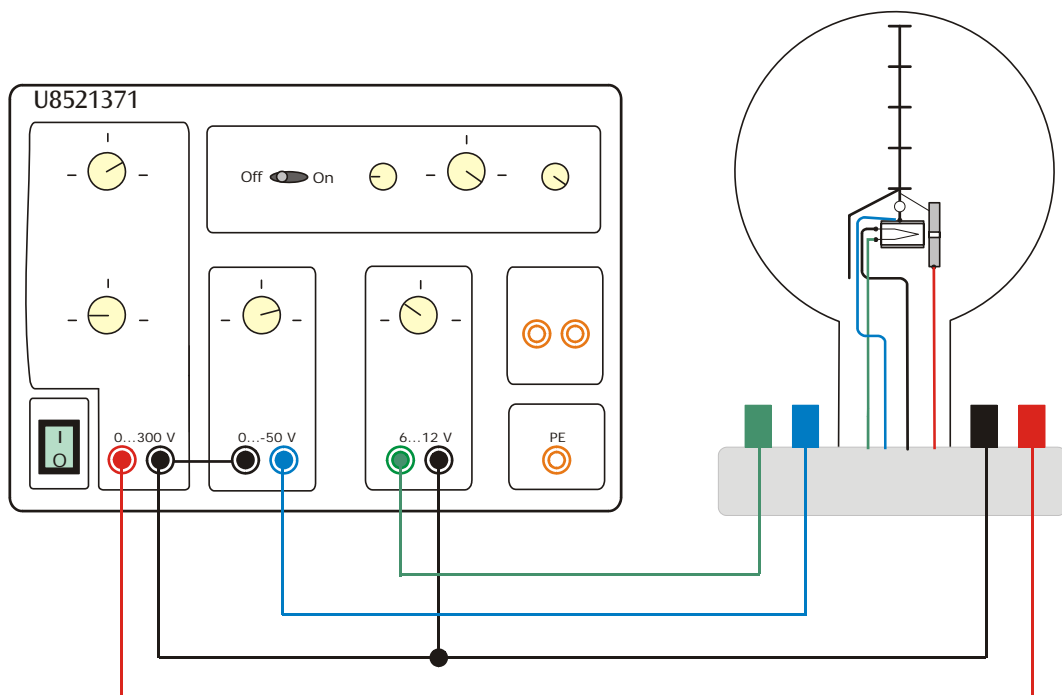

Fig. 1 Electrical connections from the fine beam tube to the DC power supply unit 300 V U8521371
- Set up the tube as in fig. 1.